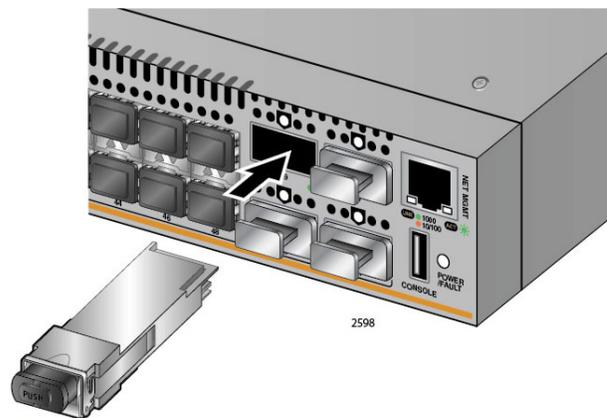

Figure 32. Installing a QSFP+ Transceiver
4. Slide the module into the slot until it clicks into place. See Figure 32.